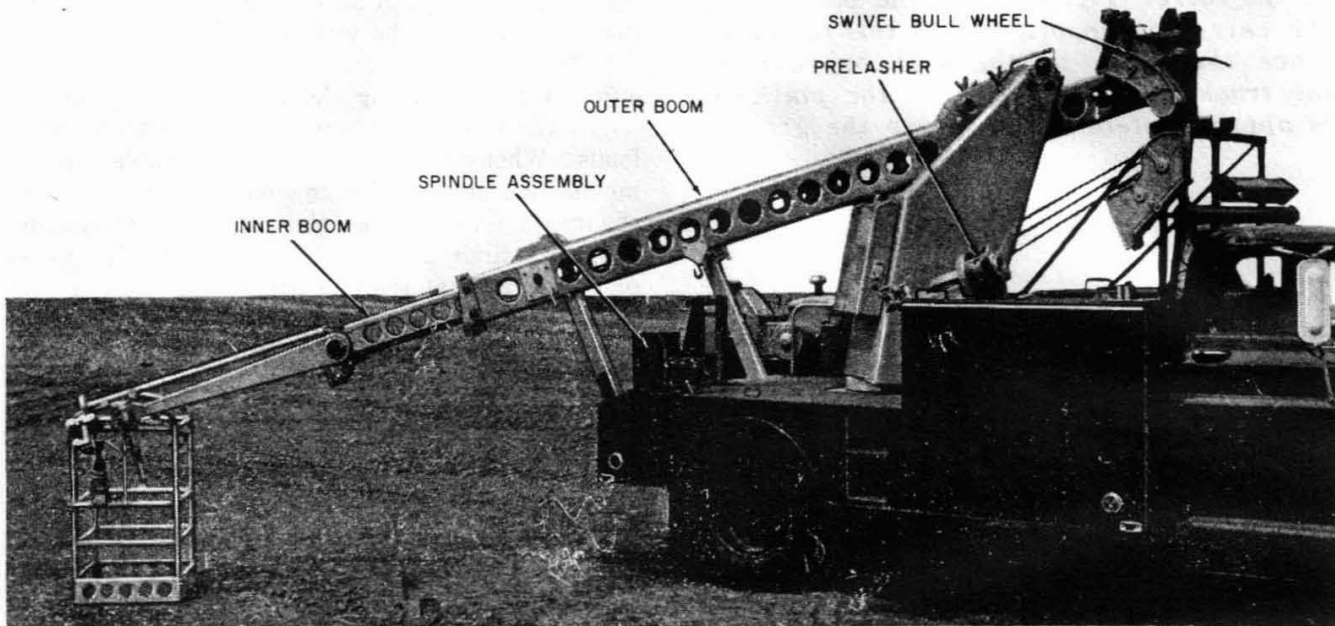

Fig. 10—Boom Lowered to Rest Platform on Ground
**4.04** Unhook the platform from its travel position, and using the platform control, place the platform firmly on the ground, as shown in Fig. 10, before entering.